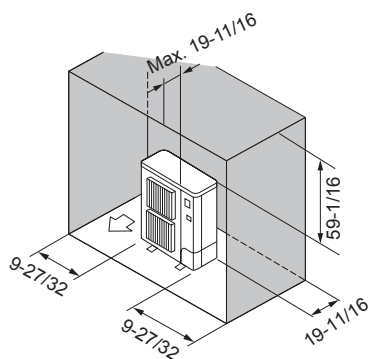

Fig. 2-11
⑥ Obstacles at rear, sides, and above (Fig. 2-11)